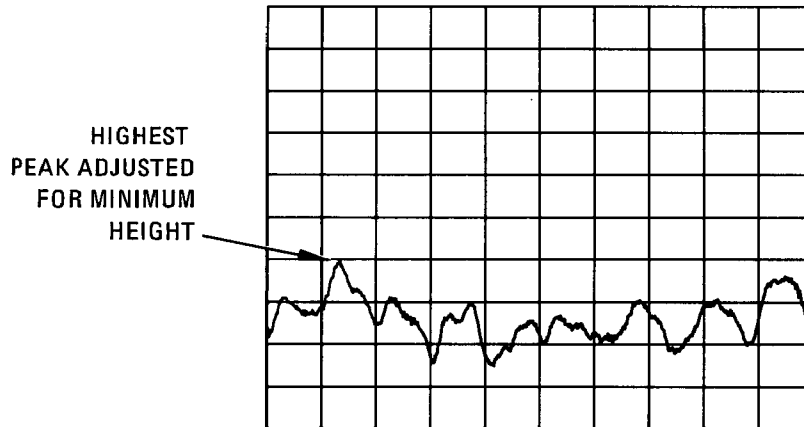

Figure 5-52. Oscilloscope Display at A26TP3 MOD LVL with No Squegging
The oscilloscope display should look similar to Figure 5-52.
- The oscilloscope display should be similar to Figure 5-52. Adjust A24R12 MIN control so that the highest peak on the oscilloscope display is minimum.